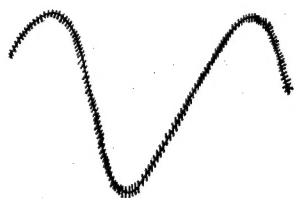

Figure 11
7. Adjust the transformer (T301) to obtain the waveform shown in figure 11.